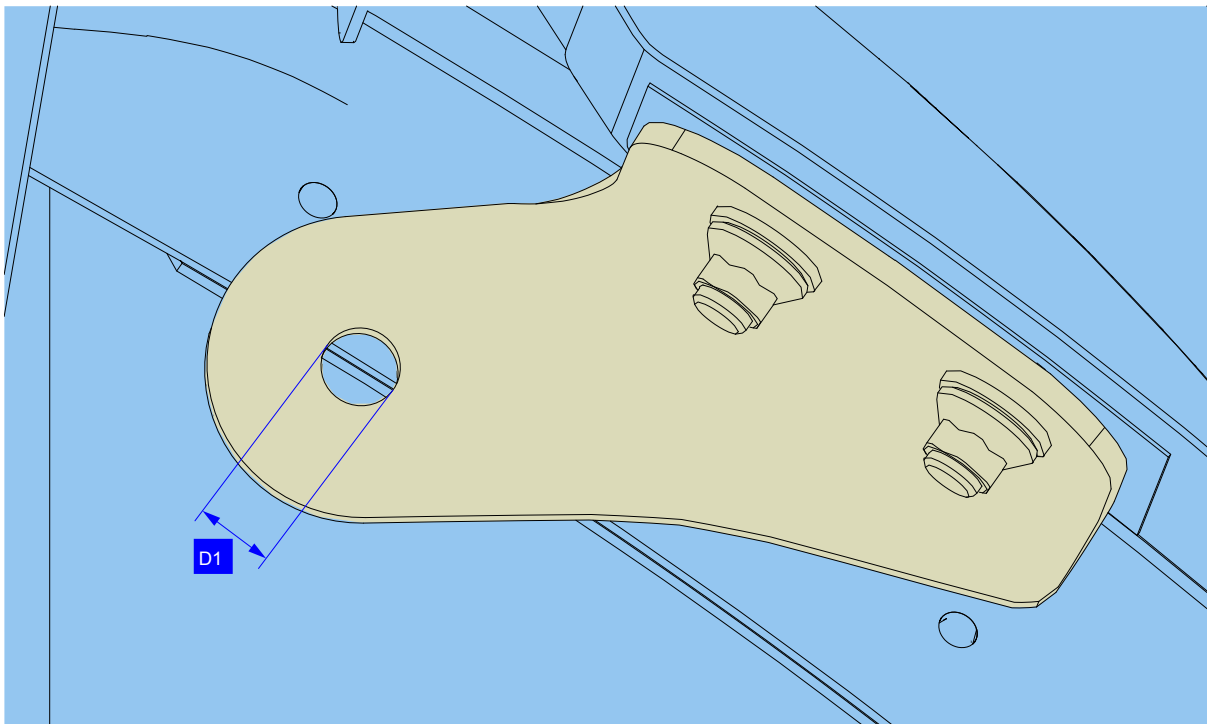

**Figure 1**
4.1.1. Remove and discard pins, self-locking nuts and flat washers from the compensator rod on both sides according to (Figure 1).
4.1.2. Remove the compensator rod according to (Figure 1).